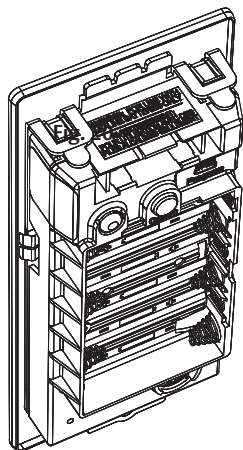

Fig. 8
- b. Ensure proper alignment of board-to-board connectors while pivoting controller toward door until two tabs on top snap securely into place on mounting plate (Fig. 8).